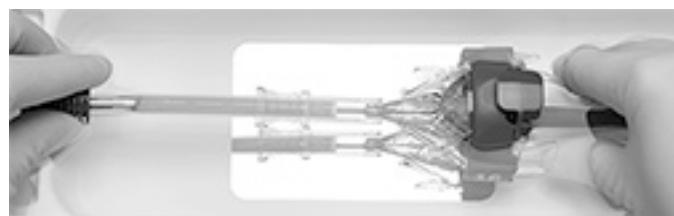

Figure 19
12. Hold the loading tool stationary with one hand, and with the other hand manually advance the capsule guide tube so that the distal section covers the paddle attachment pockets and the top portion of the outflow struts (Figure 19).